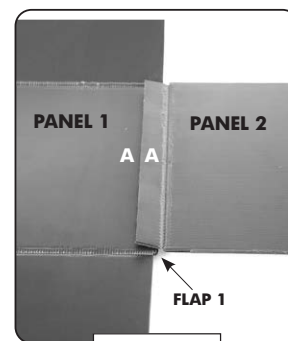

Figure 4
- 4** Connect **PANEL 1** and **PANEL 2** by attaching the edges labeled A on both panels to one another. **See Figure 4**. Evenly overlap and press flat to adhere together.